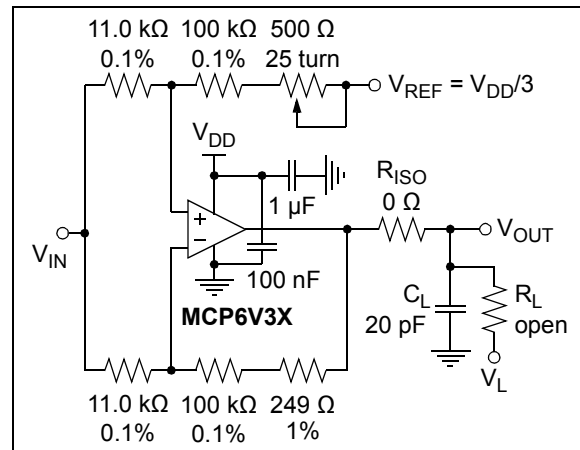

FIGURE 1-6: Test Circuit for Dynamic Input Behavior.
- Note 1:** These parameters were characterized using the circuit in Figure 1-6. In Figure 2-37 and Figure 2-38, there is an IMD tone at DC, a residual tone at 100 Hz and other IMD tones and clock tones.
The circuit in Figure 1-6 tests the input's dynamic behavior (i.e., IMD, t_{STR} , t_{STL} and t_{ODR}). The potentiometer balances the resistor network (V_{OUT} should equal V_{REF} at DC). The op amp's Common mode input voltage is $V_{CM} = V_{IN}/2$. The error at the input (V_{ERR}) appears at V_{OUT} with a noise gain of 10 V/V.